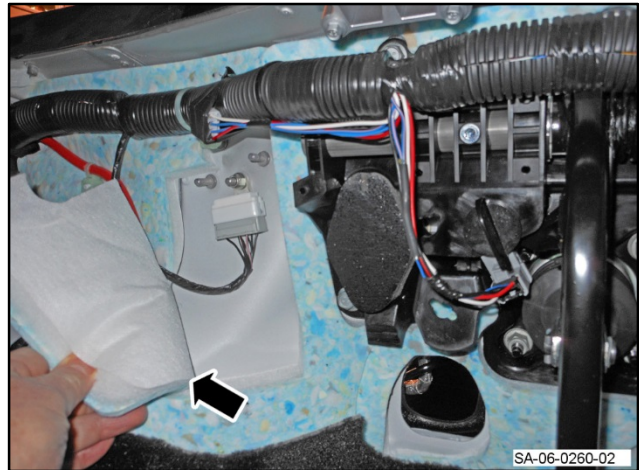

Figure 2
- Carefully lift the flap of NVH material from the bulkhead to the left (refer to Figure 2) of the pedal box.